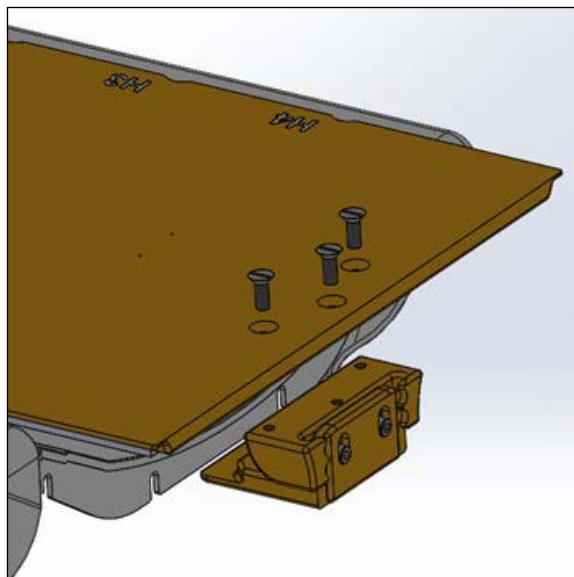

Fig. 48
2. Install Head End Assembly onto CT Overlay using plastic $\frac{3}{8}$ -16 Flat Head Screws (Fig. 48).